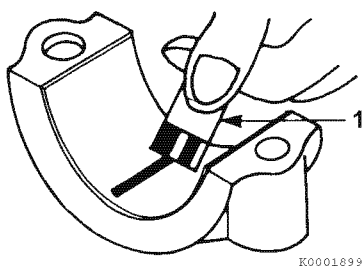

Figure 6-63
- 5- Compare the width of the flattened PLASTIGAGE to the graduation marks on the package (**Figure 6-63, (1)**). The mark that most closely matches the width of the flattened PLASTIGAGE will indicate the bearing oil clearance.